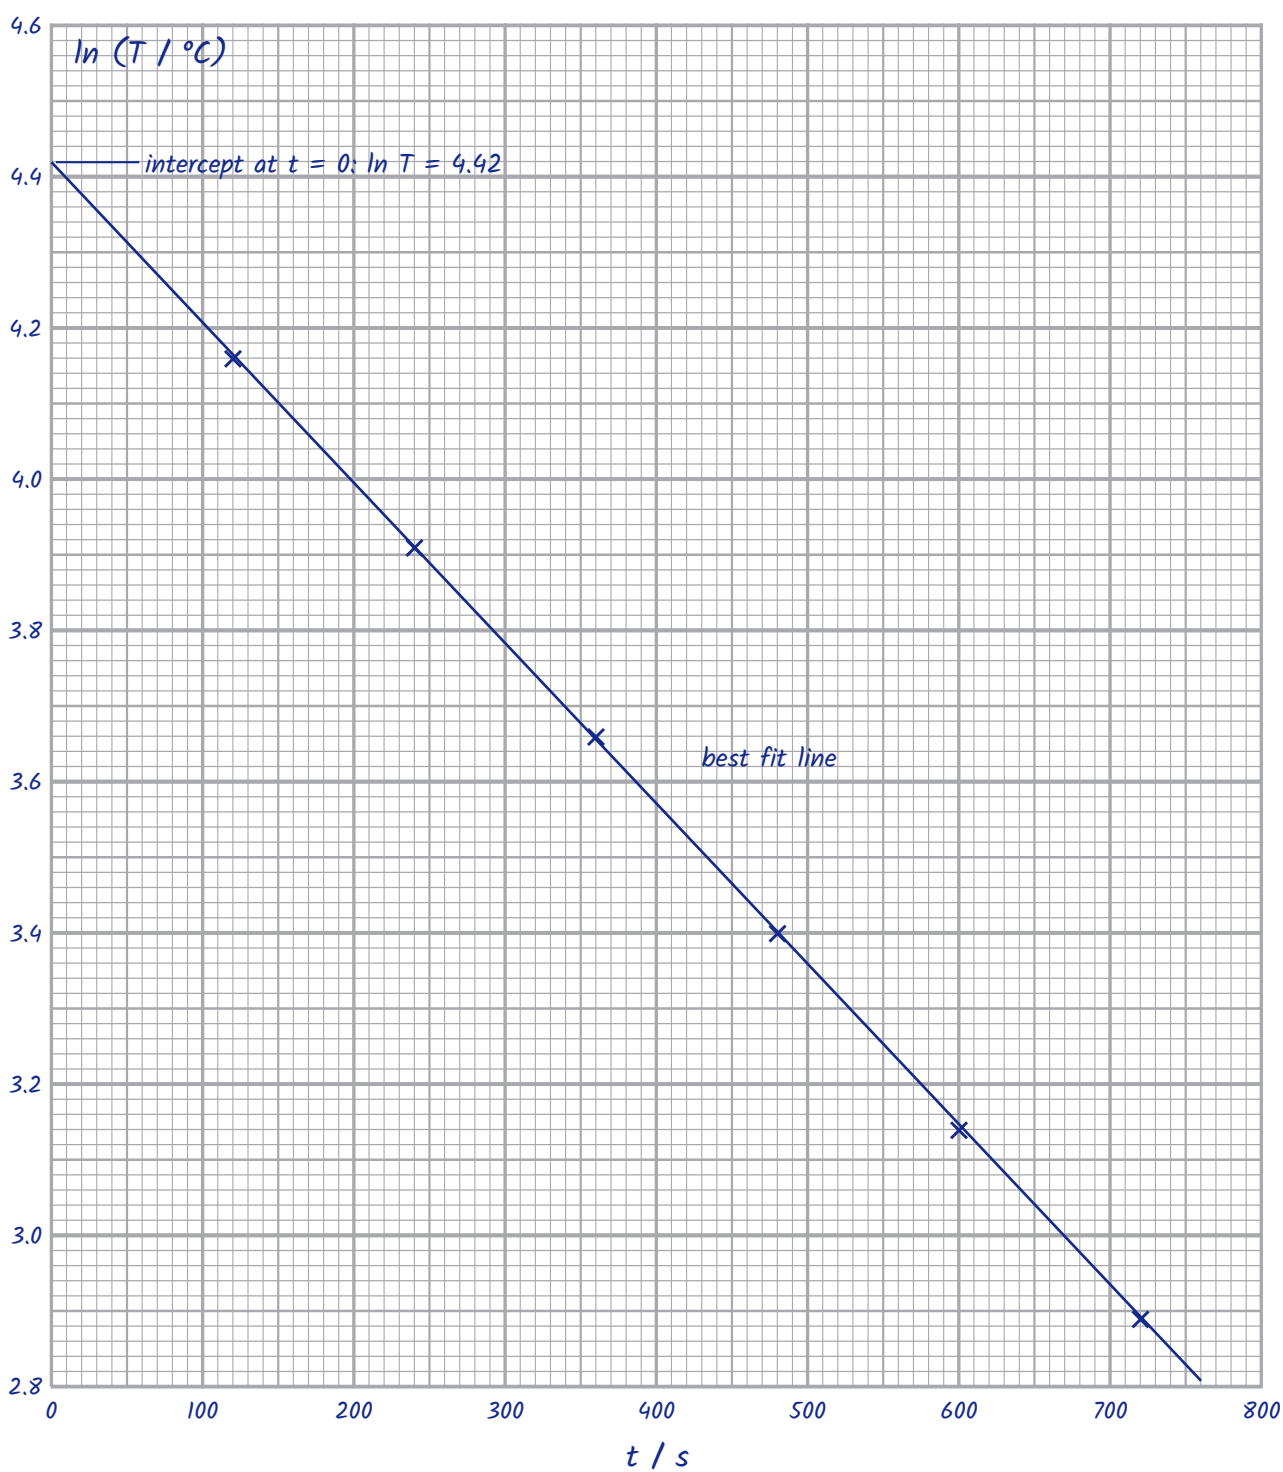

Fig. 3.1
- (ii) Draw a graph of $\ln T$ against t on the grid of **Fig. 3.1**. Choose suitable scales for the axes, plot the points and draw the best fit line for the points. [5]